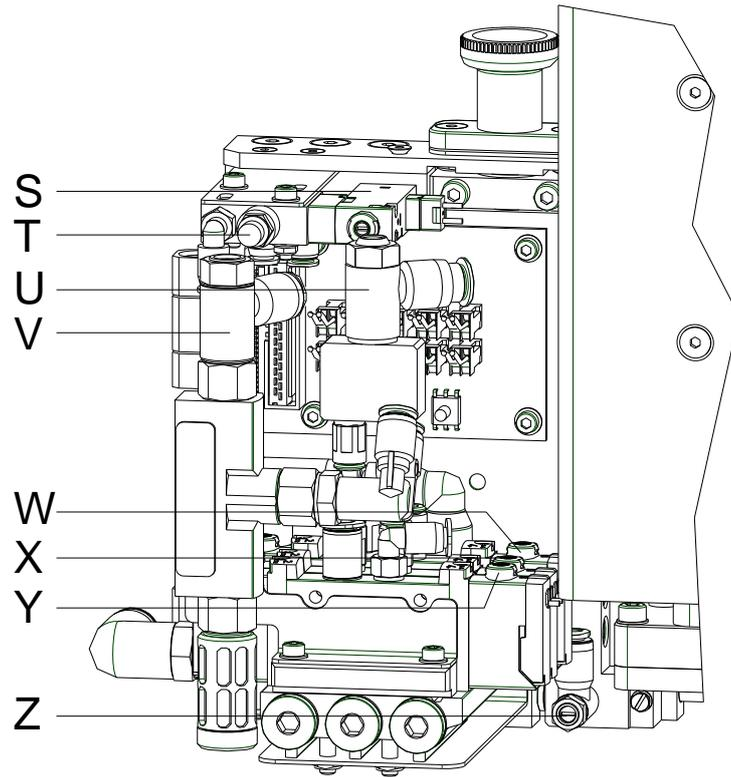

Figure 5
References to specific items in a figure are marked with item numbers. They are identified with parentheses in the text, e.g. (9). If no figure number is provided, item numbers in the text always refer to the graphic directly above the text. If a reference is made to another graphic, the figure number is specified, e.g. (2, in figure 5).